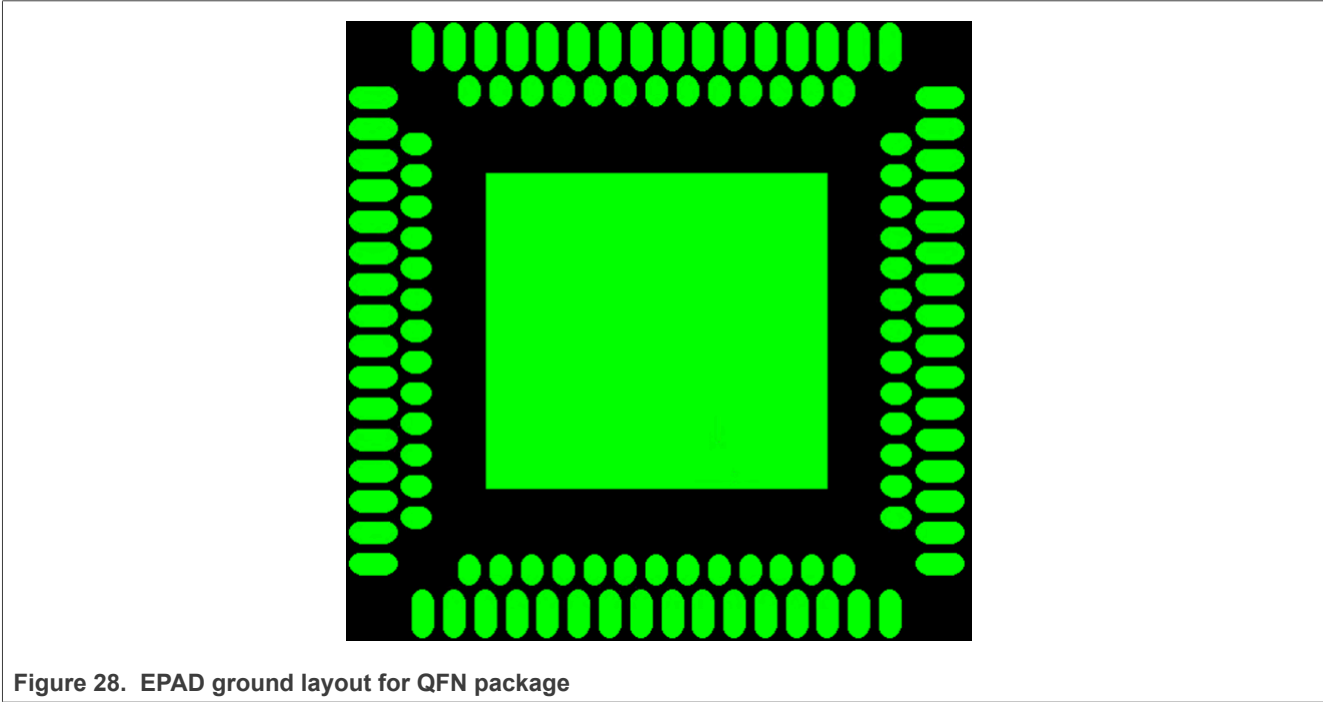

Figure 28. EPAD ground layout for QFN package
- For HVQFN package only, add an EPAD ground under the package for thermal relief as shown in Figure 28.
Figure 28 shows QFN EPAD ground layout.